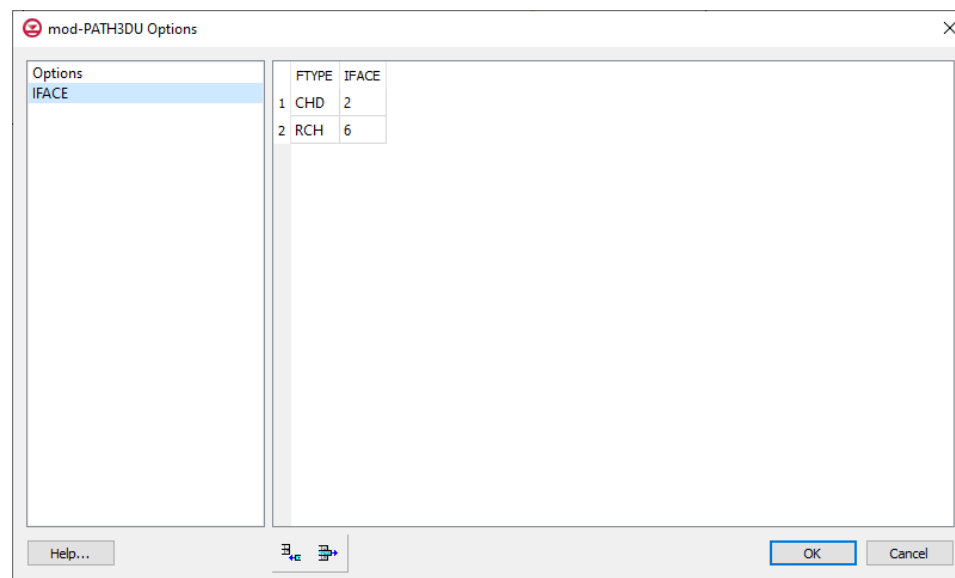

Figure 4 IFACE values
1. Select “IFACE” from the list on the left (Figure 4).
This table (Figure 4) shows how IFACE values are specified. Note that there are two rows listed in the table: one for *CHD* (constant head) and one for *RCH* (recharge). The names correspond to those found in the cell-to-cell flow (CCF) file. GMS automatically adds these two items for all new mod-PATH3DU simulations.